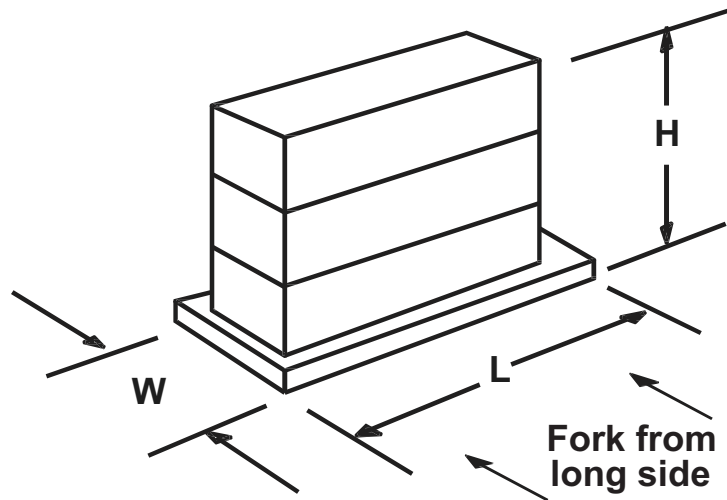

Figure 2
3. Horizontal shipments are on a dedicated open flatbed trailer either 3 or 6 per pallet, see **Figure 2 and 3**.